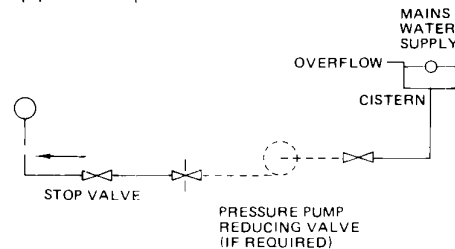

FIG. 7 FULLY PUMPED SEALED SYSTEM
- where access to a make-up vessel would be difficult by using the mains top up method or a remote automatic pressurisation and make-up unit as illustrated in FIG. 7 METHODS 1 and 2.
The system shall be fitted with a filling point at low level which incorporates a stop valve to BS1010 and a double check valve (approved by the National Water Council) to be fitted in this order from the system mains, Refer to FIG. 7. Method 1.